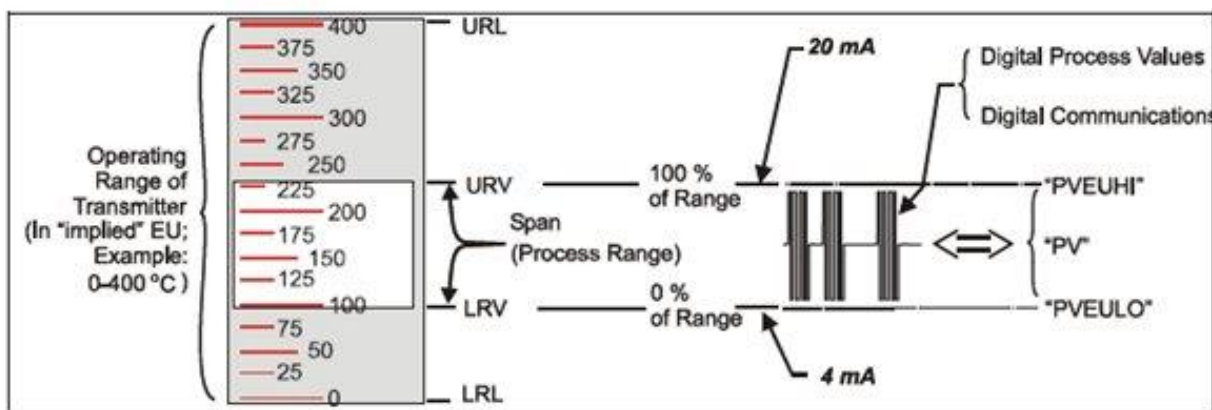

Figure 5 – DE Mode Value Scaling
Much of the operation in the Digitally Enhanced (DE) mode is similar to that of analog operation. The essential characteristics of DE mode operation are shown in Figure 5.
As indicated at the right of Figure 5, output values of process variables, as well as communications are transferred to a receiving device digitally. The digital coding is Honeywell proprietary, which requires the use of DE-capable Honeywell control equipment.